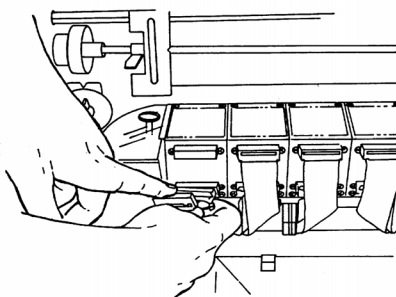

Figure 7-2 Removing Print Head Cables
6. Disconnect the two flat ribbon cables from the modules to be removed. See Figure 7-2.